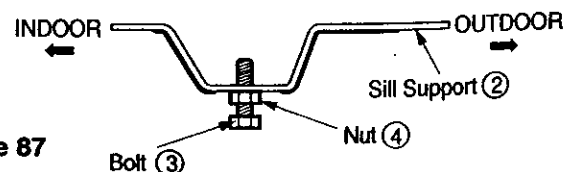

Figure 87
7. Loosely assemble the sill support using the parts in Figure 87.